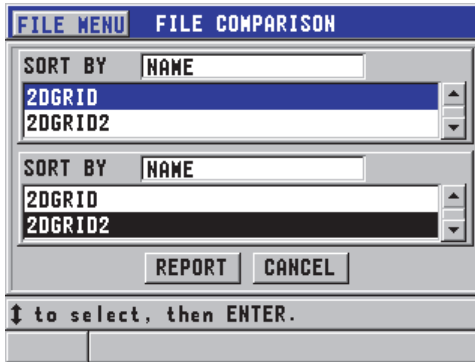

Figure 6-42 The FILE COMPARISON report screen
5. In the **FILE COMPARISON** screen (see Figure 6-42 on page 133):